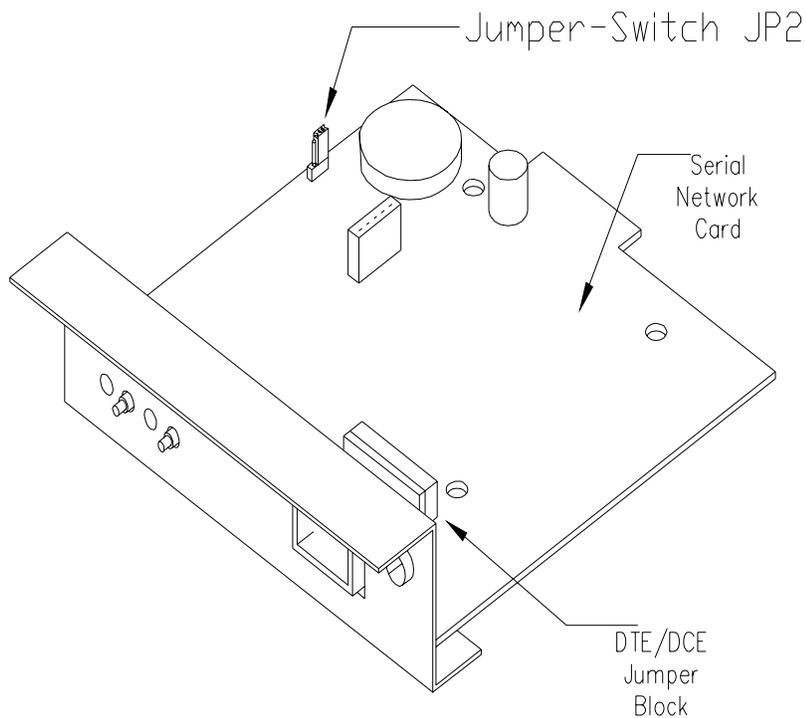

Figure 1.1 Serial Network Card Jumper Locations
Normally the only card configuration necessary is to verify the jumper switch JP2(see *figure 1.1* for location). This jumper switch enables or disables the battery backup on the Serial Network Card. The other jumper block changes the configuration of the serial(DB9) port between a standard DTE or a DCE pinout. This jumper block is set at the factory to the DTE pinout and should not need to be moved. Select the desired card configuration from the table and drawing below and install the jumpers in the indicated positions on the circuit board.
Step 3: Install the jumpers on the circuit board to the desired configuration. (Refer to the previous card configuration section and figure 1.1)